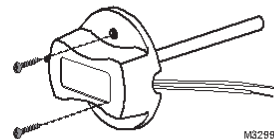

Fig. 6. Mounting Discharge/Return Air Sensor.
2. Drill 1/4-inch hole for the sensor probe and mount it to the ductwork with enclosed screws (see Fig. 6).